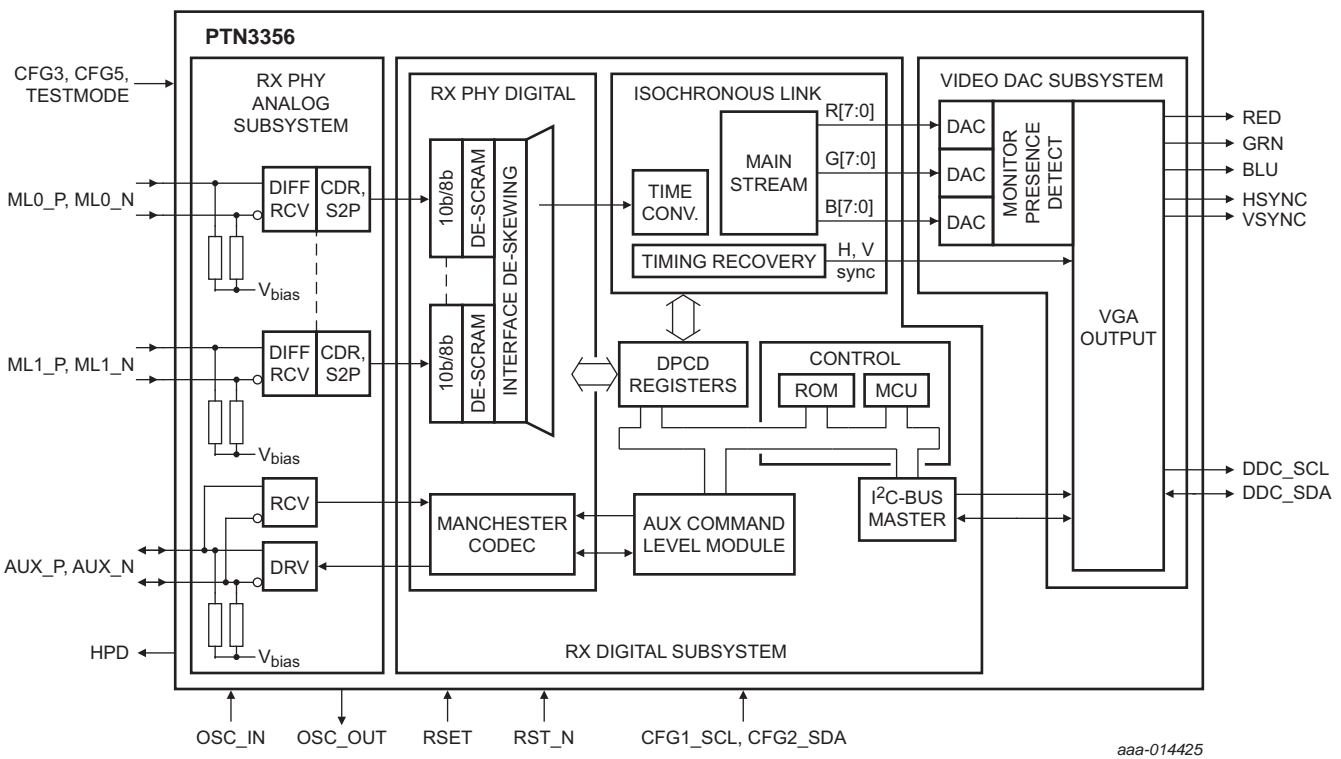

Fig 1. Functional diagram
Referring to Figure 1 “Functional diagram”, the PTN3356 performs protocol conversion from VESA DisplayPort specification to VESA VGA output. At the physical layer, PTN3356 implements the advanced DisplayPort Front-end technology (Auto receive equalization, Clock Data Recovery) to support the objectives of delivering excellent Signal Integrity (SI) performance, and consuming very low power consumption. The PTN3356 integrates a DisplayPort receiver (according to *VESA DisplayPort standard*, Ref. 1) and a high-speed triple 8-bit video digital-to-analog converter that supports a wide range of video resolutions (see [Table 9 “Display resolution and pixel clock rate^{\[1\]}”](#)), up to a pixel clock rate of 240 MHz. The PTN3356 supports one or two DisplayPort Main Link lanes operating at either in 2.7 Gbit/s or 1.62 Gbit/s per lane.